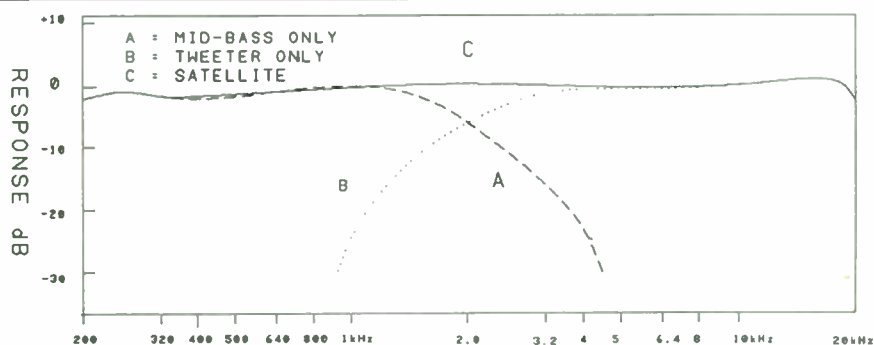

FIGURE 7: Satellite on-axis frequency response.
If the crossover frequencies are spread by a factor of 1.4 and the crossover's  $Q$  is lowered slightly, the tweeter and mid-bass driver response curves will cross at a point where both drivers are down by 5.7dB and their acoustic responses then combines to produce an overall response which is flat to within  $\pm 0.3\text{dB}$  [Fig. 7].
**MEASUREMENTS.** Individual driver responses and the overall satellite frequency response are shown in *Fig. 7* for the free-standing condition. We measured all frequency responses with swept one-third octave warble tones. We obtained these curves with the satellite at design height (tweeter 40" off the floor) in the center of a large room, and the microphone at 0.5m on the tweeter axis.